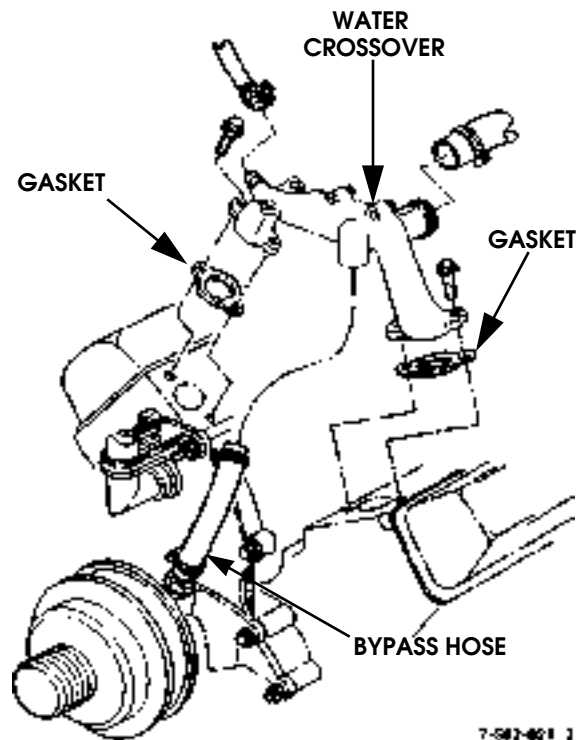

Figure 2-185: Water Crossover Installation
1. Apply Permatex #2 to crossover gaskets and position gaskets on cylinder heads (Figure 2-185).
3. Connect bypass hose to water pump (Figure 2-185).
5. Connect bypass hose to crossover hose fittings on crossover (Figure 2-185).